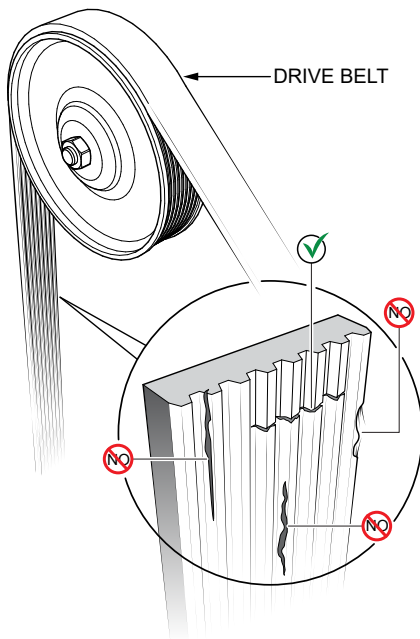

Figure 186. Drive Belt Inspection
1. Inspect the **drive belt** (Figure 186) for damage and wear. Horizontal cracks (across the belt) are acceptable. Vertical cracks (direction of belt ribs) that intersect with horizontal cracks are not acceptable.